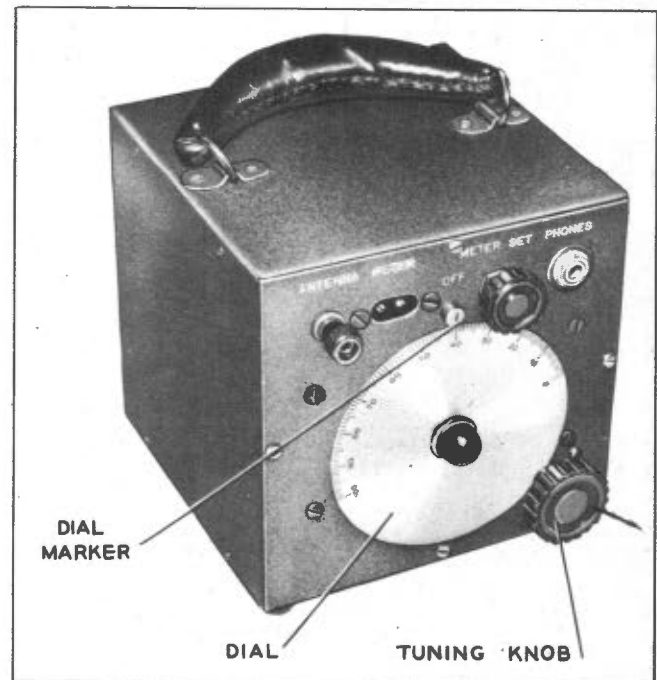

Figure 2-8. Monitor BC-1255-A—External View
(2) Monitor BC-1255-A (See fig. 2-8), Frequency Meter TS-174()/U or TS-175()/U, or equivalent.
(3) Headset HS-23.
(4) Cord CD-307 or CD-307-A.
(5) 18-inch length of flexible wire about size No. 18, bare or insulated.
(6) 24-inch length of stiff wire.